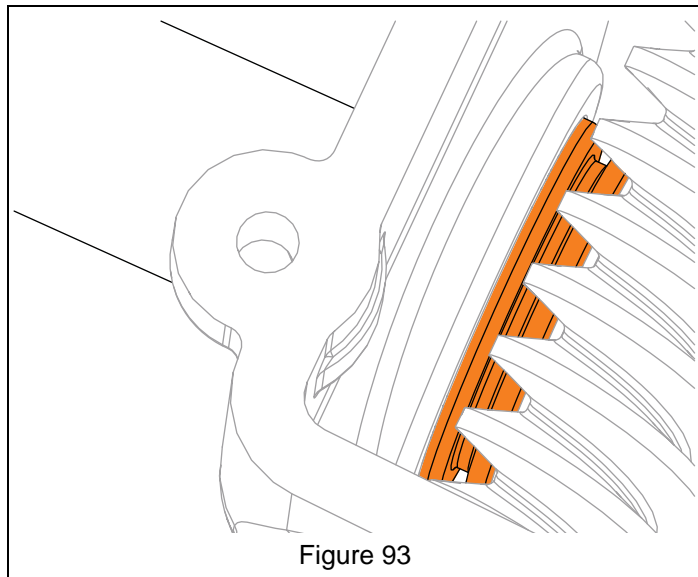

Figure 93
14. With a driver, such as a 1 1/4" deep-well socket, drive bushing into gearcase until groove is just beyond interior gearcase wall. See Figure 93.